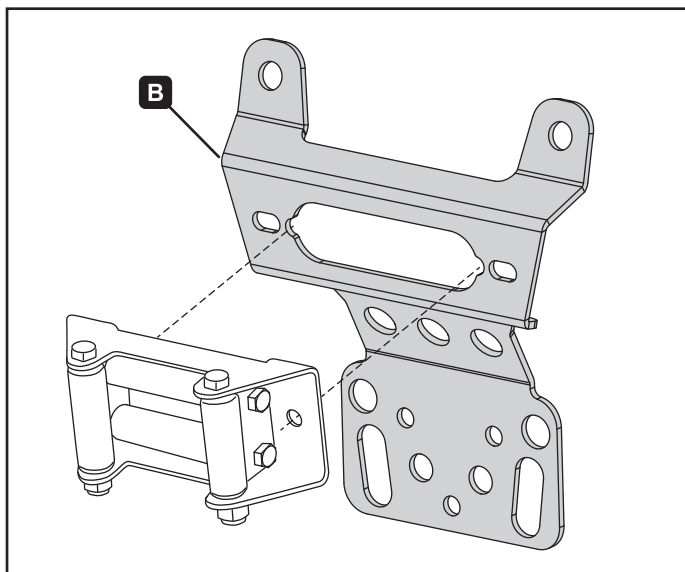
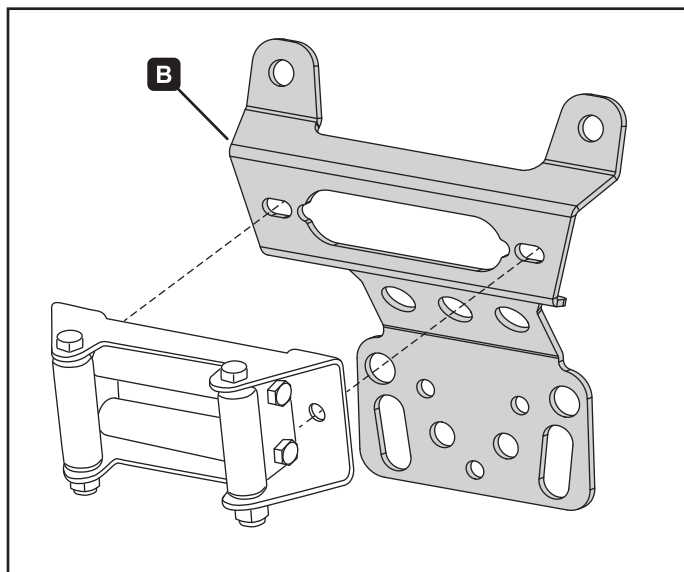

Figure 10. Standard fairlead
Figure 11. Wide fairlead
7. Install your fairlead to fairlead plate (B). For standard fairleads attach to the cutouts in the center hole, see figure 10. For wide fairleads attach to the holes outside of the center hole, see figure 11.